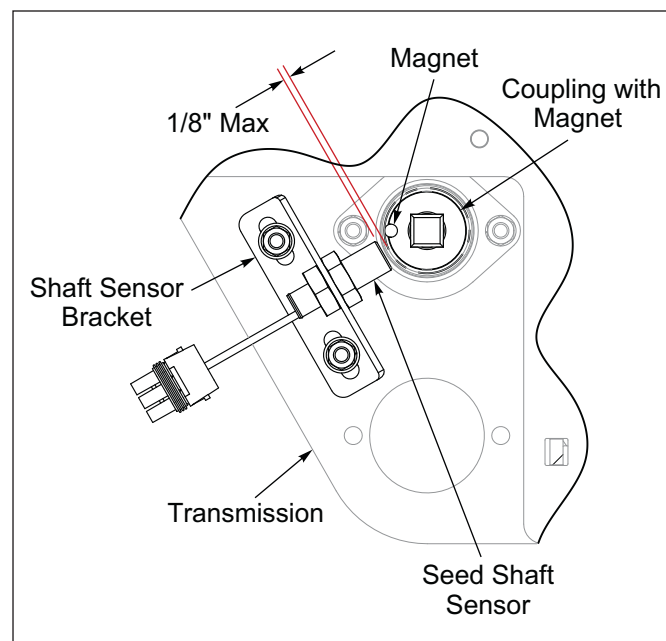

Figure 2-37: Console w/Clutch Control LH Rear Seed Shaft Sensor Detail
6. Slide/Position Seed Shaft Sensor so it is 1/8" from the magnet. **See Figure 2-37.**